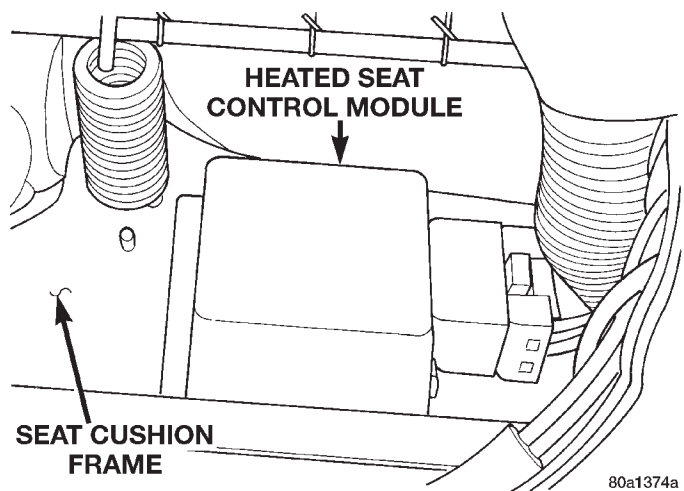

Fig. 3 Heated Seat Control Module
(8) Remove the heated seat control module mounting screw from the seat cushion frame.
(9) Reach under the rear of the seat cushion to lower the heated seat control module and mounting bracket unit from the inside of the seat cushion frame (Fig. 3).